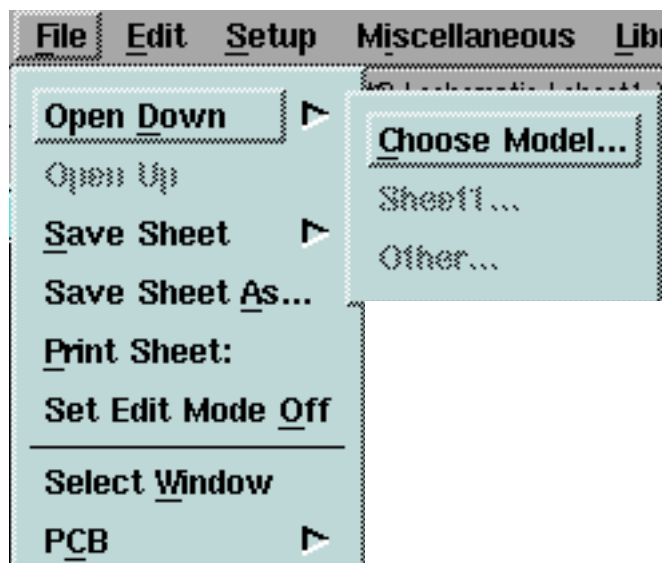

Figure 1-18. File > Open Down Menu
3. Choose the **File > Open Down > Choose Model** pulldown menu item, as shown in Figure 1-18.